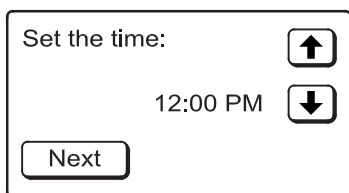

FIG. 16
**2. CURRENT TIME:** Press the DOWN (↓) or UP (↑) buttons to set the current time (See Figure 16). Hold the button down to rapidly advance. Be sure AM or PM is correct. When the current time is shown, press the NEXT button.